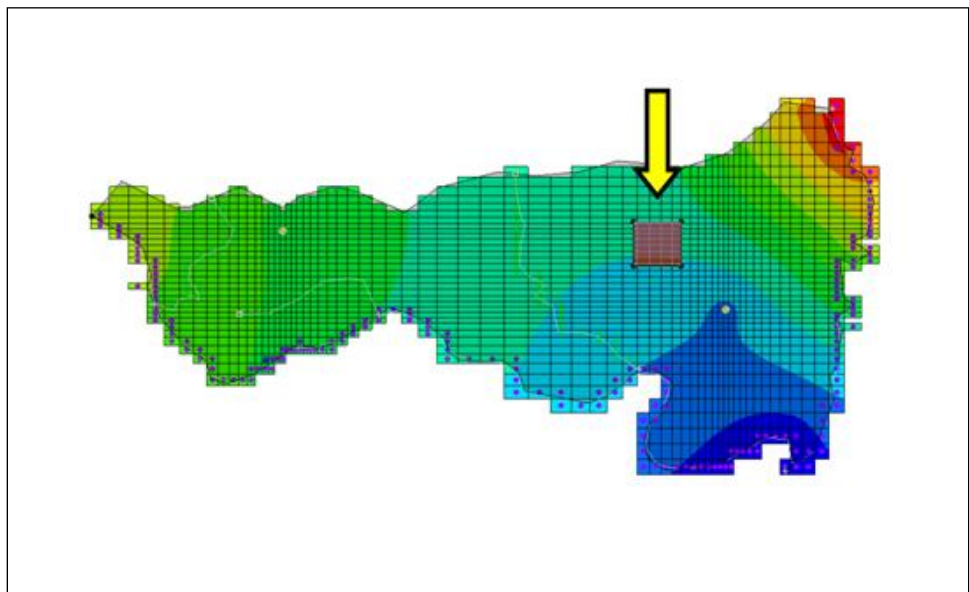

Figure 2 Landfill polygon selected
5. Using the **Select Polygons**  tool, double-click on the landfill polygon (shown in Figure 2 below) to open the *Attribute Table* dialog.